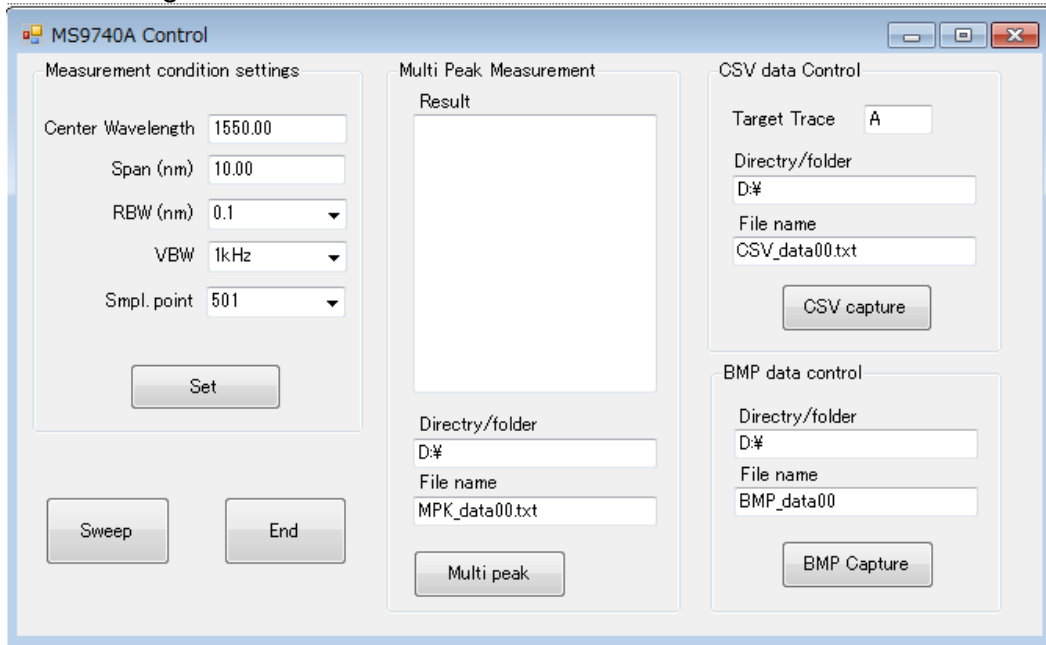

Fig. 10. Visual Basic GUI
- f. When debugging starts, a screen like that shown in Fig. 10 is displayed. Confirm each setting and the obtained results.